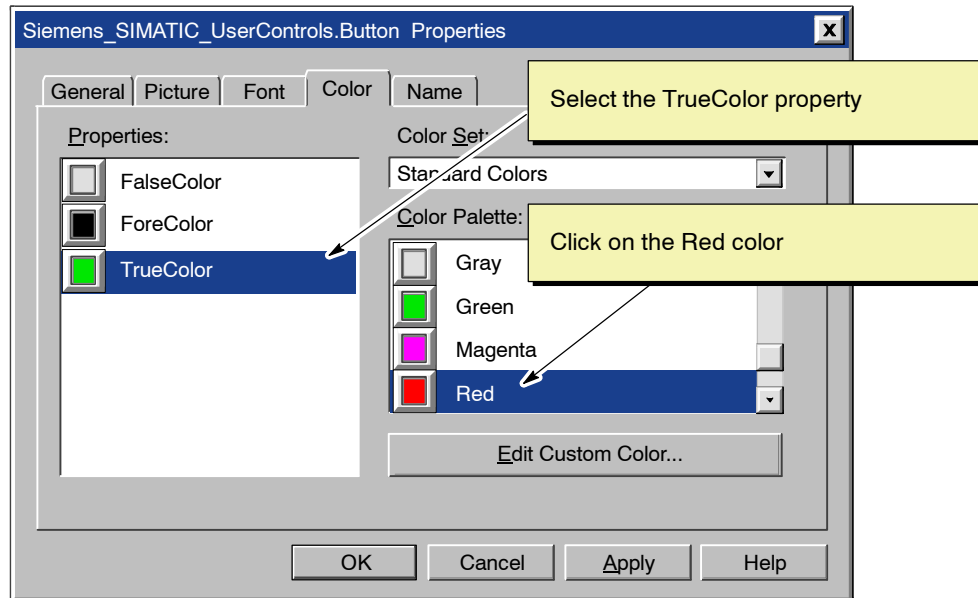

Figure 3-20 Configuring the True Color for Button1 (Button control 1)
9. Select (click on) TrueColor in the Properties box and click on the color Red in the “Color Palette” box. See Figure 3-20.